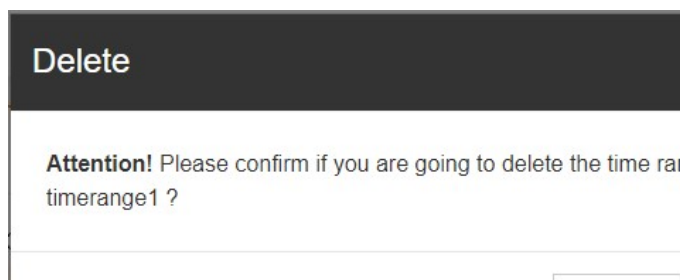

Figure 13-48 Dialog box for deleting the time range
7. To delete the time range, click  on the right side of the time range. The **Delete** dialog box is displayed, as shown in Figure 13-48. Click **CONFIRM**. The time period data is deleted.